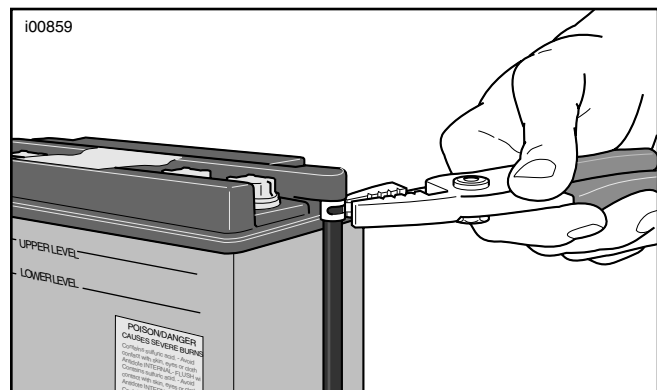

Figure 2. Vent Tube Clamp
- a. See Figure 2. On models with a smooth vent elbow, clamp long vent tube to elbow of battery. Rotate prongs of clamp toward side of battery.